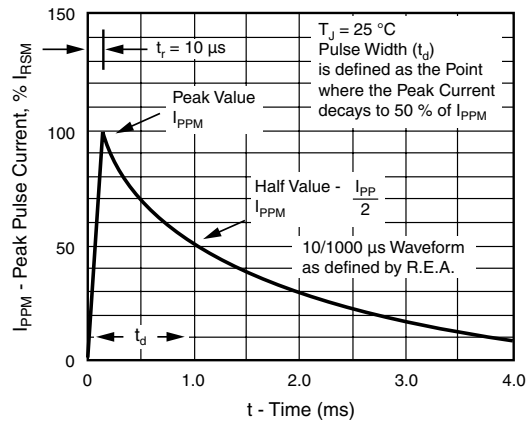
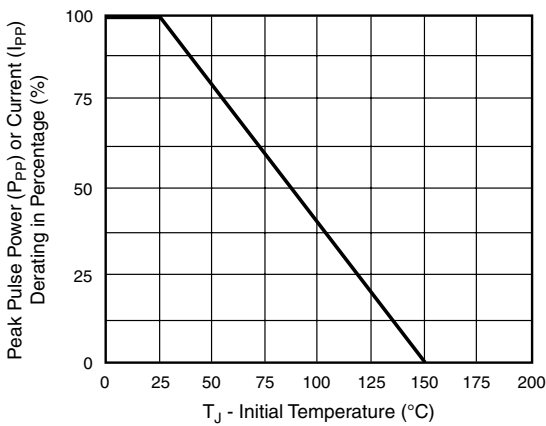

Figure 3. Pulse Waveform
Figure 2. Pulse Derating Curve
(1) Non-repetitive current pulse, per Fig. 3 and derated above $T_A = 25$ °C per Fig. 2
(2) Mounted on 0.2 x 0.2" (5.0 x 5.0 mm) copper pads to each terminal
(3) Pulse test: 300 μ s pulse width, 1 % duty cycle
- (1) V_{BR} measured after I_T applied for 300 μs , I_T = square wave pulse or equivalent
(2) Surge current waveform per Fig. 3 and derate per Fig. 2
(3) All terms and symbols are consistent with ANSI/IEEE C62.35